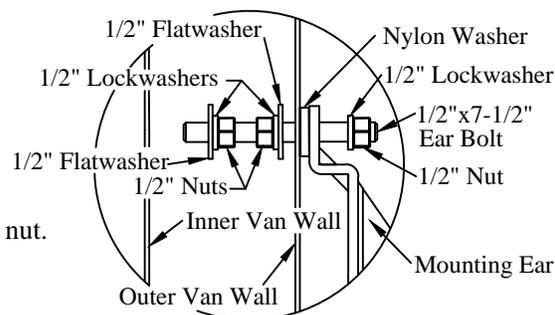

Figure 6: Mounting ear bolt hardware.
10. Insert each ear bolt through a mounting ear, nylon washer, and the outer van wall (Figure 6).
11. Install a 1/2" flat washer, lock washer, two (2) nuts, lock washer, and flat washer on each ear bolt, in between the van walls (Figure 6).